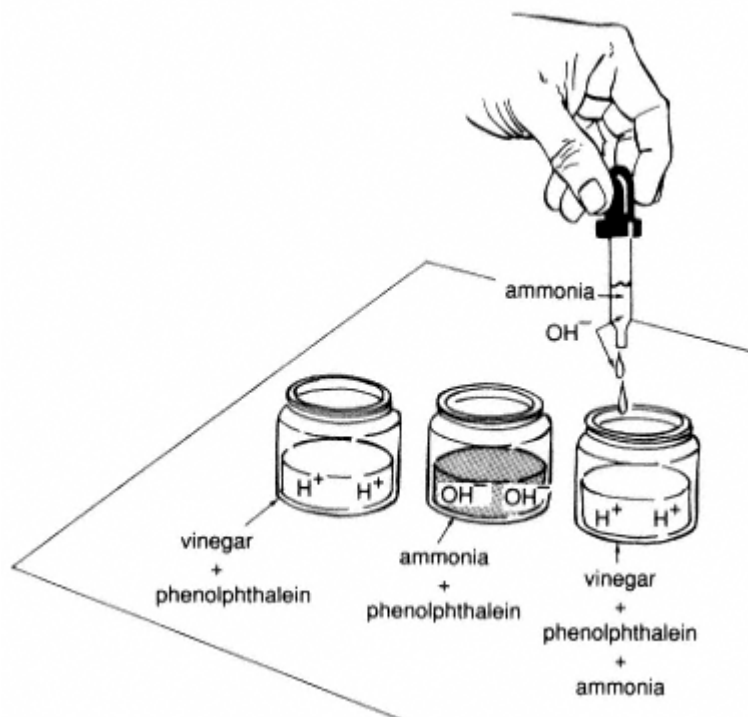

Figure 12.1
10. Continue to add drops of ammonia until the entire solution retains a pale pink color after stirring (see Figure 12.1).